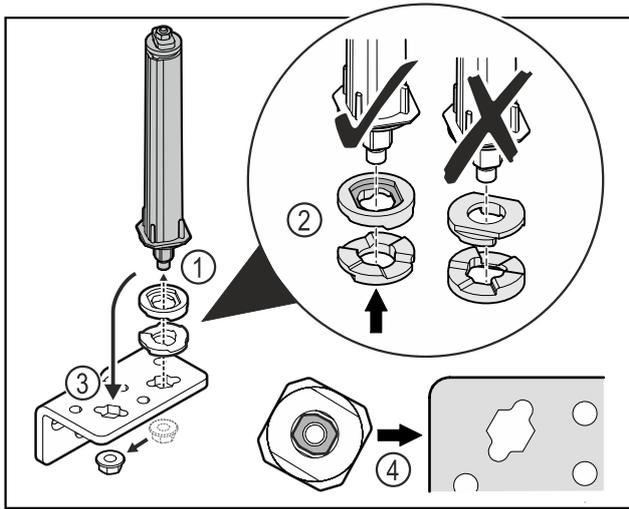

Fig. 28
- ▶ Loosen the nut and remove the door closing system Fig. 28 (1).
- ▶ Observe the correct alignment of the height adjustment washers Fig. 28 (2).
- ▶ Put the door closing system in the hinge and fix in place with the nut Fig. 28 (3).
- ▶ Observe the correct alignment of the door closing system when doing so Fig. 28 (4).